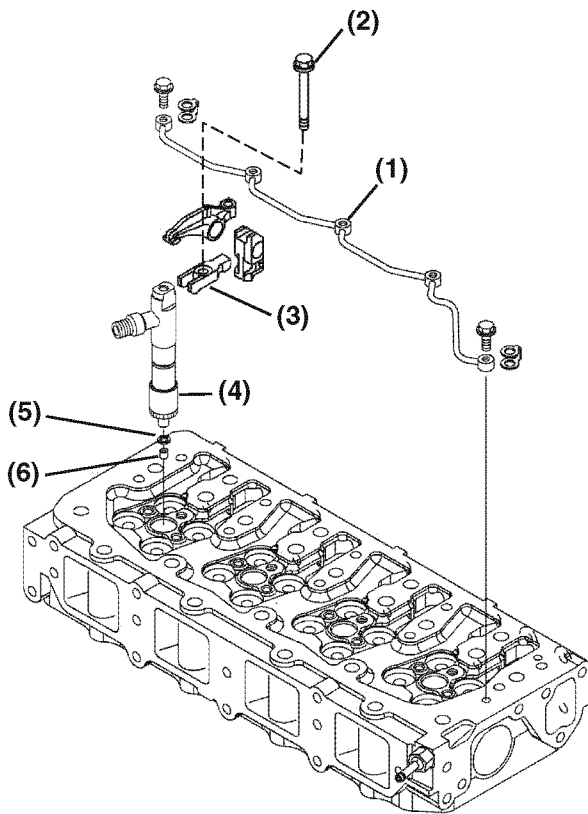

Figure 7-53
3. Remove the injector return line (**Figure 7-53, (1)**). Be careful not to bend the line.
4. Remove the fuel injector mounting clamp bolts (**Figure 7-53, (2)**). Lift the injector mounting clamps (**Figure 7-53, (3)**) away from injector.
5. Remove the fuel injector (**Figure 7-53, (4)**) from the cylinder head.
6. Remove the injector nozzle protector **(Figure 7-53, (5))** and seat **(Figure 7-53, (6))** from the cylinder head. Discard both items.